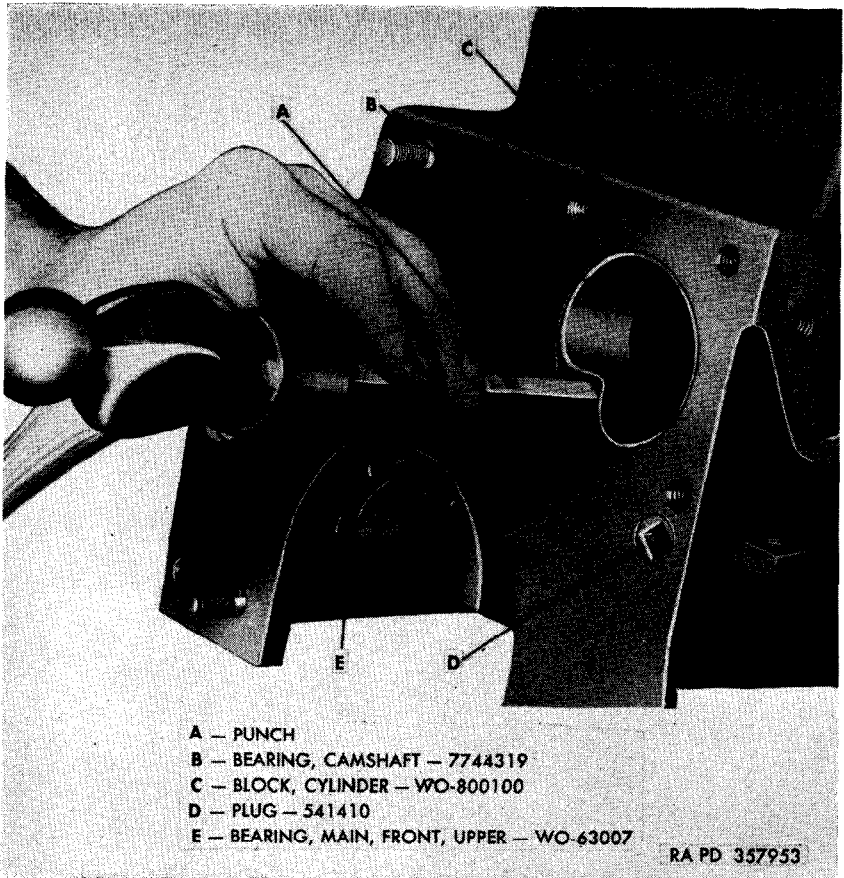
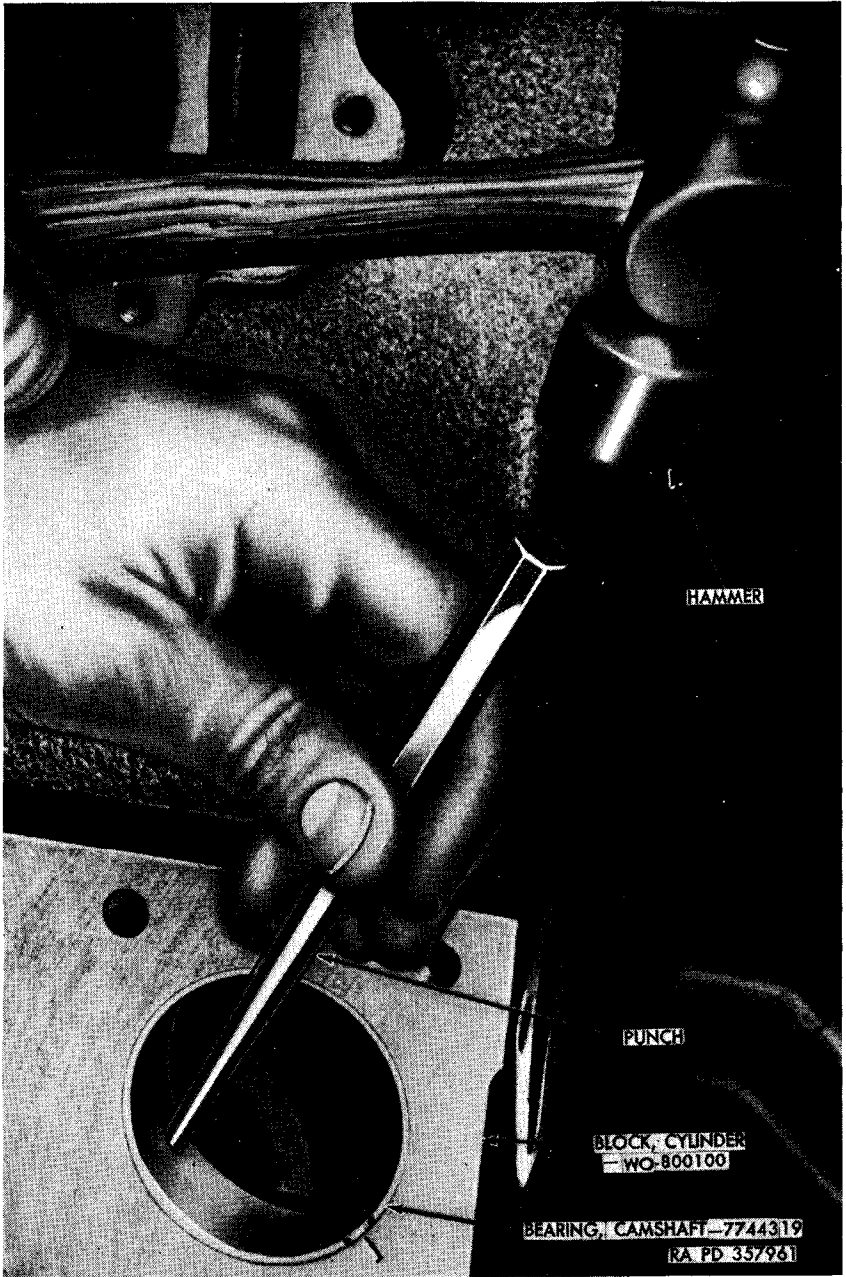

Figure 44. Removing camshaft bearing from cylinder block.
Figure 45. Staking camshaft bearing in place.
e. **REPLACE CAMSHAFT BEARING.** Drive a punch between the camshaft bearing and cylinder block (fig. 44), and tap the camshaft bearing out of the cylinder block. To install the camshaft bearing, drive it in place with a fibre block, making sure the oil hole in the bearing is in line with the oil passage in the cylinder block. Stake the camshaft bearing in place with a punch (fig. 45). Line ream the camshaft front bearing to conform to serviceability standards (par. 154).